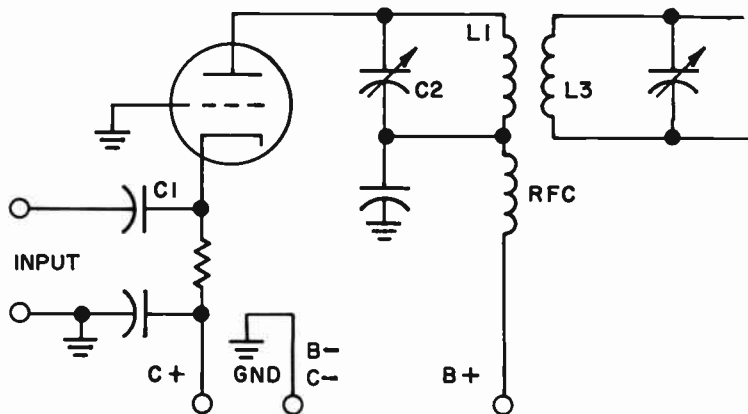

FIG. 13-12. A CLASS B GROUNDED GRID TRIODE AMPLIFIER.
**THE GROUNDED GRID AMPLIFIER.** Fig. 13-12 illustrates a grounded grid amplifier. It operates in much the same manner as the ordinary grounded cathode amplifier. The principle difference is that in the grounded
Neutralization is not required in the grounded grid amplifier because the grid acts as a shield between the output (plate) and the input (cathode). The capacitance between the plate and cathode is about 1/25th of the grid to plate capacity of the same tube in a grounded cathode circuit. The circuit shown in Fig. 13-12 is biased for Class B operation. Class B operation requires that the grid be biased at cutoff. Hence, the plate current will flow only during one-half of the input cycle. However, the L1C2 tank circuit exhibits the “flywheel effect”. This means that once the LC circuit is excited, it provides the complete cycle of voltage.
Fig. 13-12 shows a second method of coupling between stages. It is called **INDUCTIVE COUPLING**. The RF voltage is magnetically or inductively coupled from  $L_1$  to  $L_3$ . Inductive coupling is more expensive than capacitive coupling since it requires two tuned circuits. It also requires additional tuning. The advantage of inductive coupling is that the addition of a tuned grid circuit results in increased gain and power output at the desired frequency. More tuned circuits will reject unwanted harmonics.